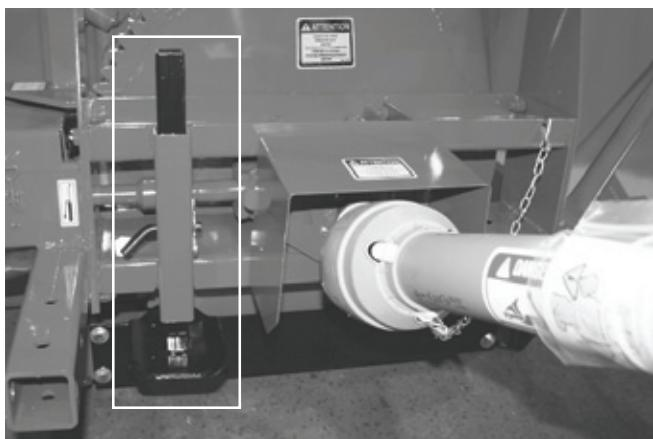

Figure 29
- 6) Following the installation of the Snowblower on the tractor, **do not forget** to lift the storage support (Fig. 29).